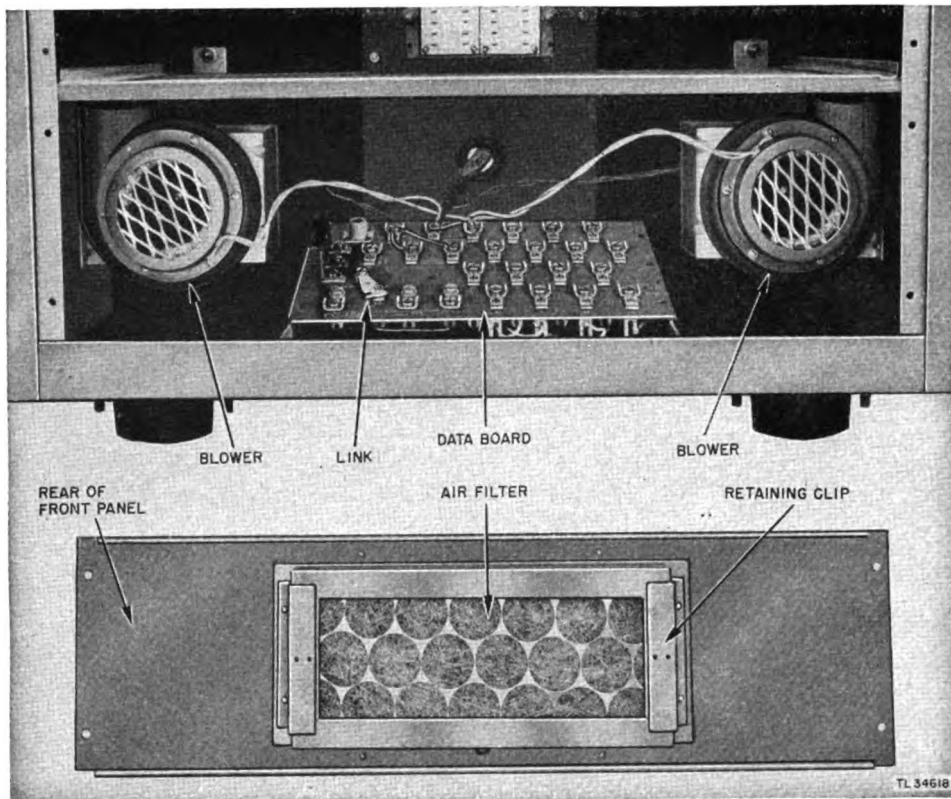

Figure 22. Lower compartment of Rack FM-80—panel removed.
- (2) Cloth, dry, clean.
- (3) Lamp and extension cord.
- (4) Pliers.
- (5) Sandpaper.
- (6) Screw driver.
- (7) Soldering iron and solder.
- (8) Wrench, open-end.
- (9) Wrench, socket.
- (10) Oil.
- (11) Oilcan.
b. SAFETY PRECAUTIONS. The data board (fig. 22) at the base of the rack carries line voltages. Disconnect Cord CD-1006 from the a-c data box of Radio Set SCR-584 (fig. 1) before working on the Rack FM-80.
c. EQUIPMENT CAUTIONS. (1) It is necessary to remove the blower motors from the rack in order to oil them as described in TM 11-1532 (when published).
(2) Use the proper tools. The use of the proper tool for each operation will insure optimum results from the tools involved and the parts concerned.
(3) Tag all terminals when removing a part for cleaning, adjustment, repair, or replacement. Tag the terminals of the part as well as each of cables or wires removed. This operation requires but little time, and serious trouble caused by incorrect reconnection is avoided.
(4) When removing parts, place every screw, washer, bolt, or small part into a small container to avoid losing them.
(5) Use care in handling the tools and parts within the unit. Be careful not to drop any part in the unit.
(6) Never use water for cleaning anything within the unit. The only cleaning agent to be used is carbon tetrachloride.
(7) Make sure that every terminal disconnected for inspection is properly and carefully reconnected. Tighten all nuts and screws securely. Be careful however, not to exert too much force and strip threads or ruin connections.
a. LOCATION (fig. 22).
(1) The data board for—
(2) The shock mounts for excessive wear and tightness of mounting.
(3) The lower compartment for general cleanliness and tightness of assembly bolts.
(1) The air filter (fig. 22) for an excessive accumulation of dirt. Note whether the filter is mounted correctly and whether the retaining clips are in place. Improperly assembled filter elements or warped frames will allow unfiltered air to leak around the edges and thus permit dust to enter the ventilating system.
(2) The retaining clips for tightness.